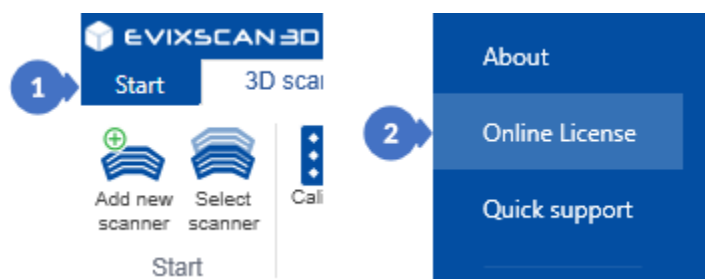

Figure 23. Open a tab to activate an online license
The tab for managing your licenses (Figure 16) (18) contains all the information about your licenses (Figure 23).